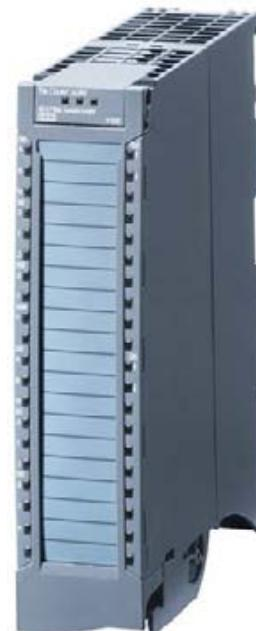

Fig. 2.9 TM Count 2 × 24 V counter module
Technology modules (TM) are signal-preprocessing, “intelligent” modules which prepare and process signals coming from the process independent of the CPU, and either return them to the process or make them available to the user program at the CPU's internal interface. They are responsible for handling functions which the CPU cannot usually execute quickly enough, such as counting pulses (Fig. 2.9).